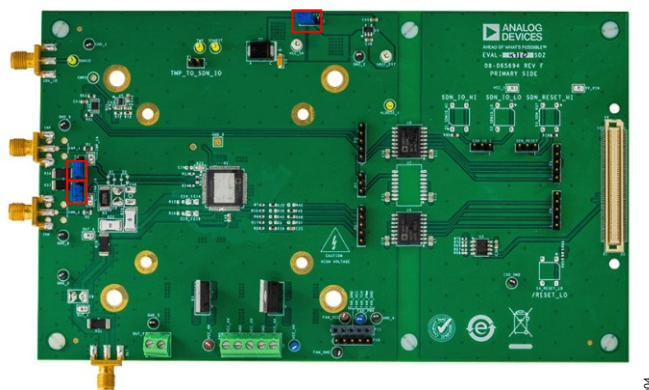

Figure 4. ADHV4710 Evaluation Board Factory Default Jumper Position
1. Confirm the jumpers are in the factory default positions, as shown in Figure 4.